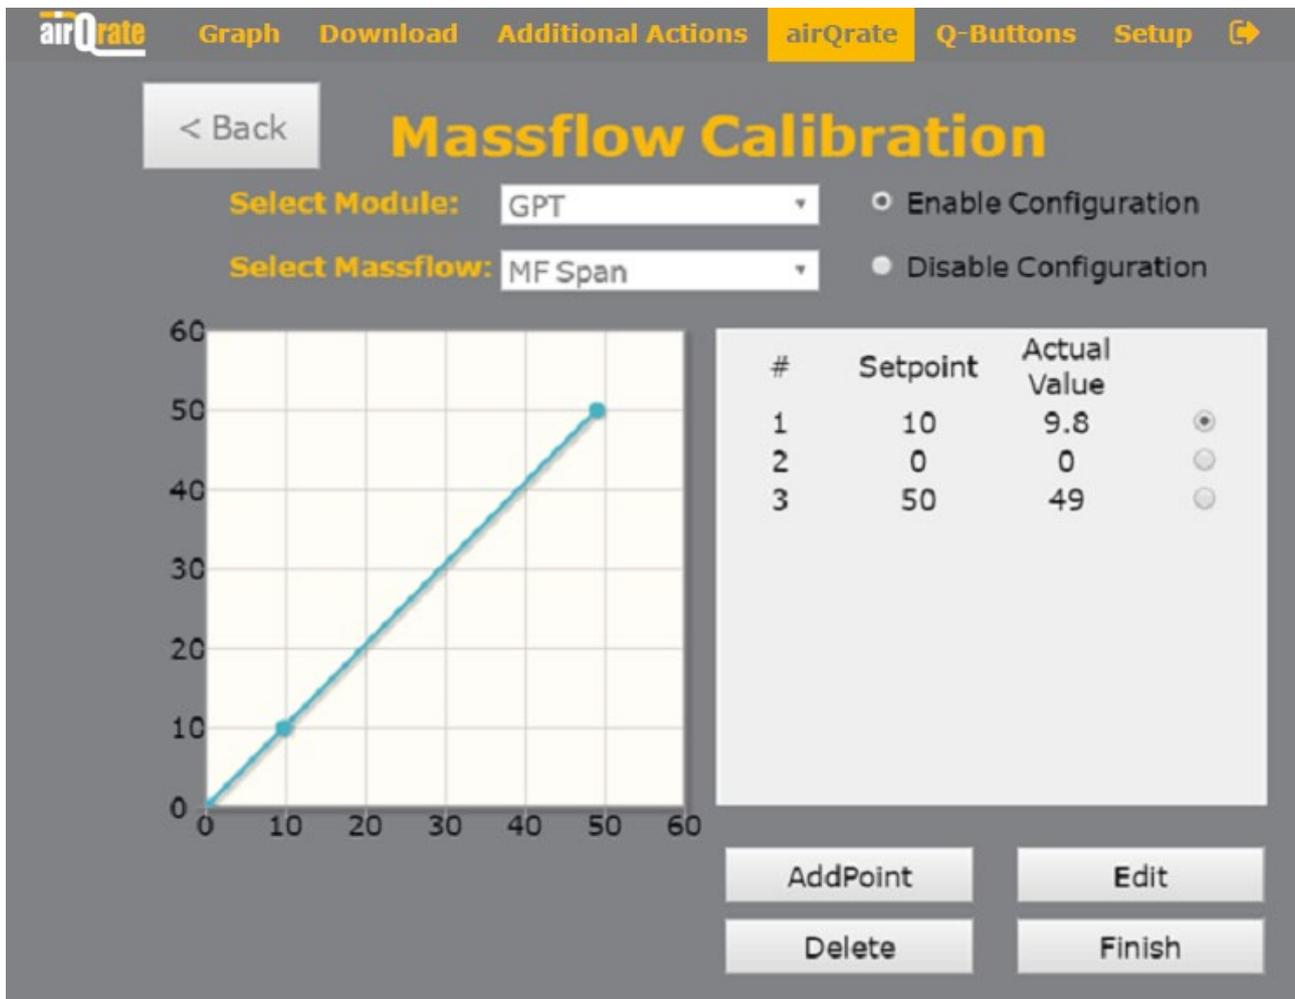

Figure 37: Calibration curve of the MF displayed as a graph and as numerical values
- The calibration values are displayed both numerically and as a graph (*Figure 37*).